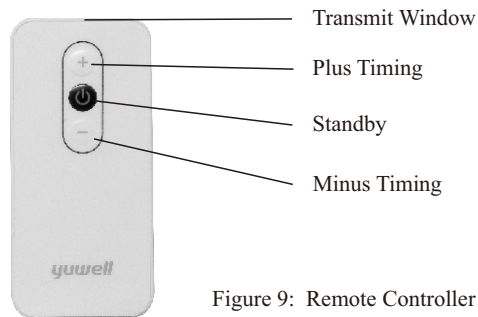

Figure 9: Remote Controller
- ▶ Use infrared remote controller to operate the device. (Figure 9)